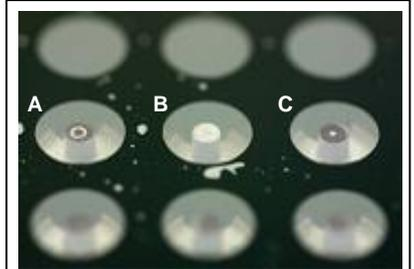

Figure 1. Stoppers that are:
2. Remove the Oris™ Collagen I Coated Plate from refrigeration and allow to equilibrate to room temperature for one hour. Visually inspect the underside of the populated 96-well plate to ensure that the Oris™ Cell Seeding Stoppers are firmly sealed against the bottom of the plate. To inspect the stoppers, turn the plate over and examine the stoppers for sealing (see Figure 1). If incomplete sealing is observed, return the plate to the upright position and use a sterile instrument to gently push the stopper back into the well until sealing is observed.
NOTE: The sealing of the stoppers can be most easily observed if the plate is tipped at an angle and viewed under indirect light to reveal the “bullseye” pattern at the bottom of each well (Figure 1).